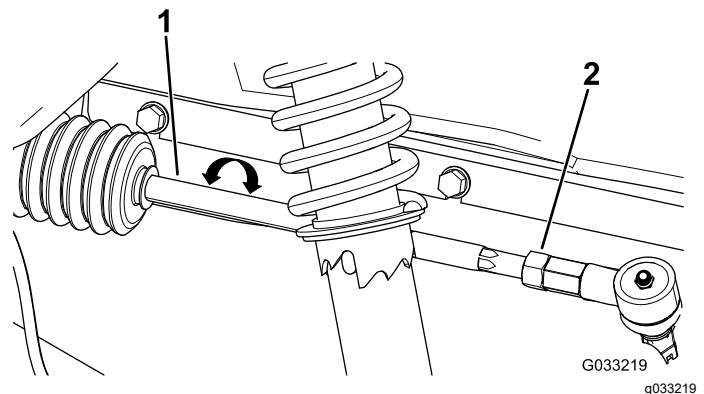

Figure 56
2. If the measurement does not fall within 0 to 6 mm (0 to 1/4 inch), loosen the jam nuts at the outer end of the tie rods (Figure 56).